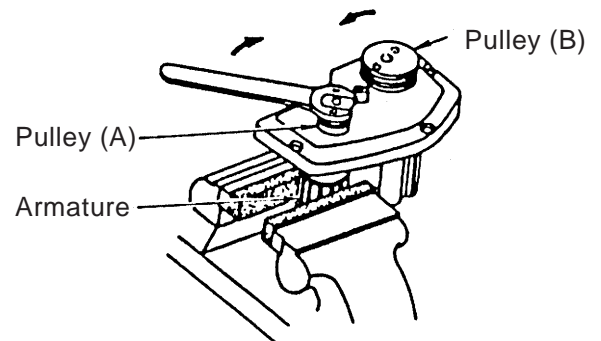

Fig. 6
1-4-2. Pulley (A) and Pulley (B) Disassembly (See Figs. 6 and 7)
- (1) Slightly lift the Belt [44], and remove it from the pulleys by rotating them manually.
- (2) Pulley (A) [46] (right-hand threaded) and Pulley (B) [45] (left-hand threaded) are screwed onto the armature shaft and the cutter block spindle respectively. To remove Pulley (A), fix the Armature [31] firmly in a vise, and unscrew the pulley in a clockwise direction with a wrench.
- (3) To remove Pulley (B), fix the cutter block firmly in a vise, and unscrew pulley (B) in a counterclockwise direction with the wrench. It is recommended that gloves or a thick rag be used to prevent injury to fingers and hands.